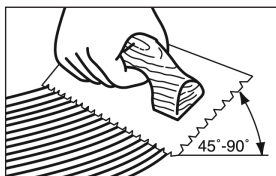

Figure 13
- Hold trowel at a minimum 45° angle (Figure 13) firmly against the subfloor to obtain a 50-60 ft.² (4-5.5 m²) per gallon spread rate (20-30 ft.² per gallon for Bruce® Summit Select or Bruce® ProConnect Plus spread with listed trowels) The trowel will leave ridges of adhesive and very little adhesive between the ridges. This method will allow you to still see the chalk lines between the ridges and provide the recommended spread rate.